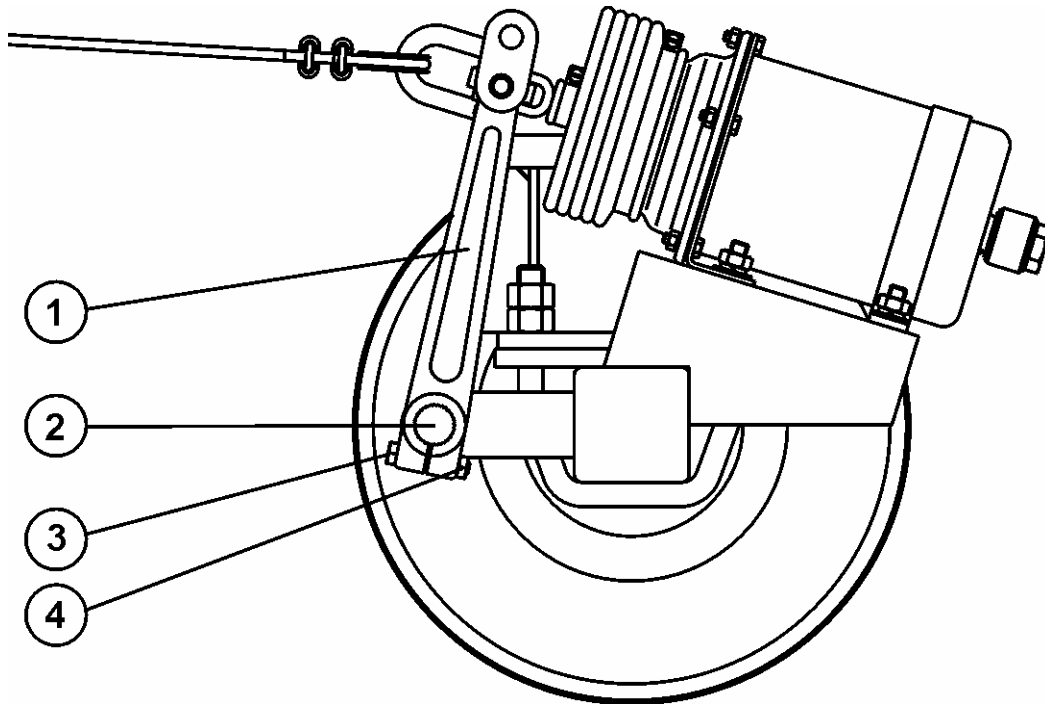

Fig. 10 Brake adjustment elements
Adjustment of brakes consists in adjustment of position of the brake cam arm (1) (Fig. 10) in relation to the cam shaft (2). For this purpose loose the nut (4) and change position of the arm on the multi-groove end of the shaft (2) towards proper direction i.e.: